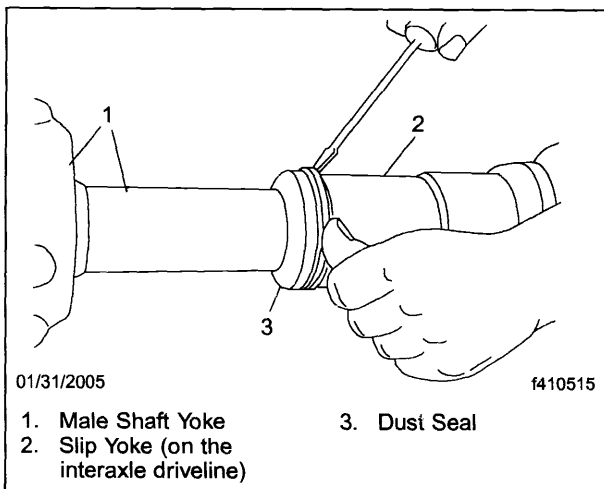

Fig. 3, Removing the Dust Seal
- 1.2 Using a blade screwdriver, remove the dust seal from the slip yoke (on the interaxle driveline). See **Fig. 3**.